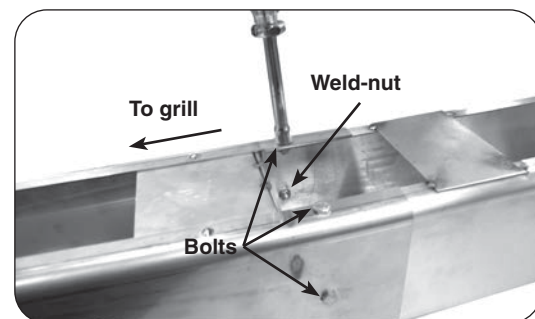

Fig. 21-2 Fasten extension to post
2. From outside the joined post and extension, insert one of the $\frac{1}{4}$ X 20"-5/8 bolts (supplied) into each of the five (5) bolt holes and tighten each using a $\frac{7}{16}$ " socket driver or wrench (see Fig. 21-2).